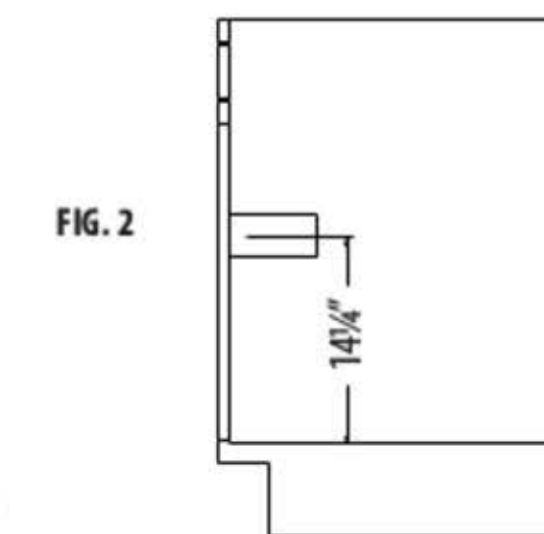

FIG. 2
3. Attach shim to inside wall of the cabinet with its center at 14 1/4" from cabinet floor and flush to the face frame (both sides) (see fig. 2). Shims must be flush with face frame.